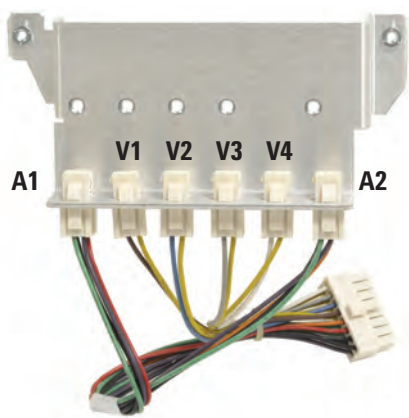

Figure 5 Connector installation for the solenoid valve bracket
- 2 Insert the four smaller valve plugs and two larger aux heater plugs into the slots in the solenoid valve bracket. Match the labels on each plug to its correct location as shown in Figure 5.